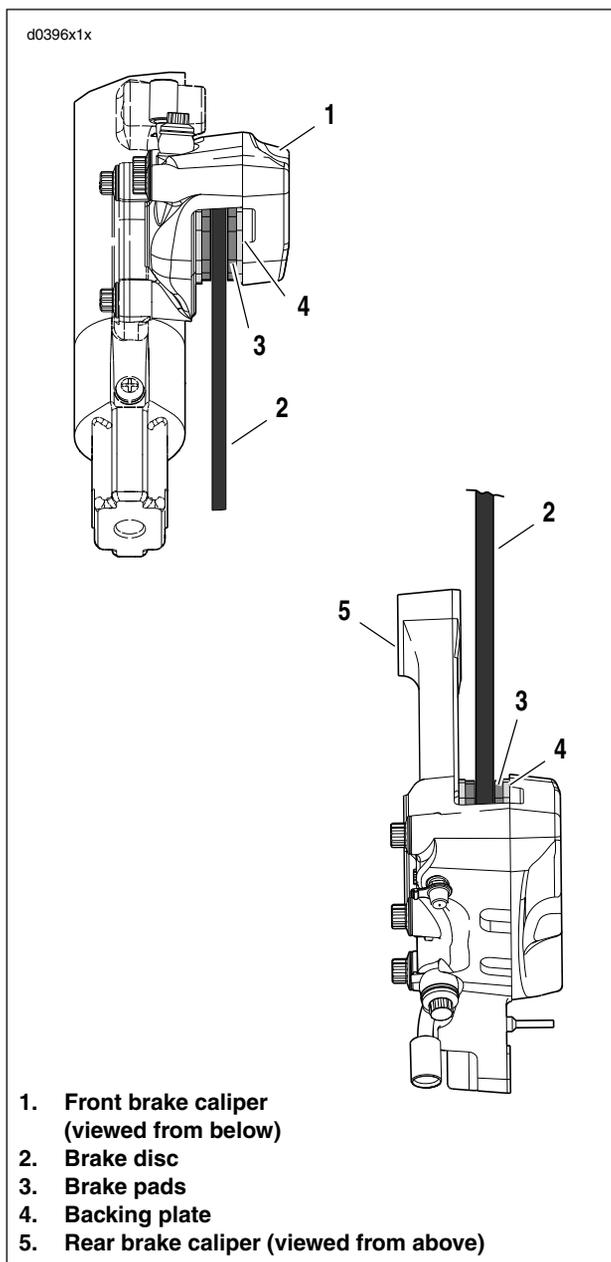

Figure 1-30. Brake Pad Inspection
See Figure 1-30. Replace brake pads (3) if brake pad friction material on either the front or rear caliper is worn to service limit. Always replace both pads in a caliper as a set.
- Front brake pads: 1.6 mm (0.06 in.) or less above the backing plate (4).
- All other brake pads: 1.02 mm (0.04 in.) or less above the backing plate (4).